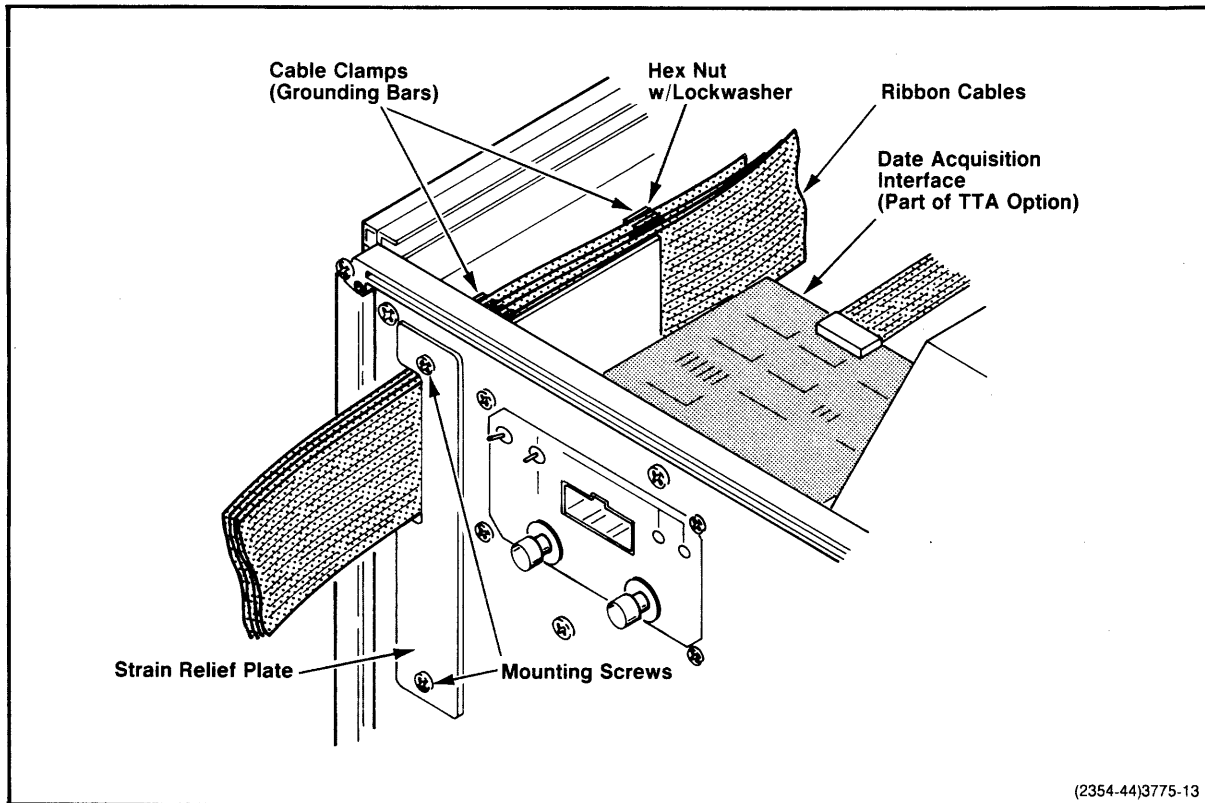

Fig. 6-5. Strain relief plate installation/removal.
8. Remove the two mounting screws at the top and bottom of the strain relief plate, as shown in Fig. 6-5. Then remove the strain relief/cable clamp assembly from the rear panel.